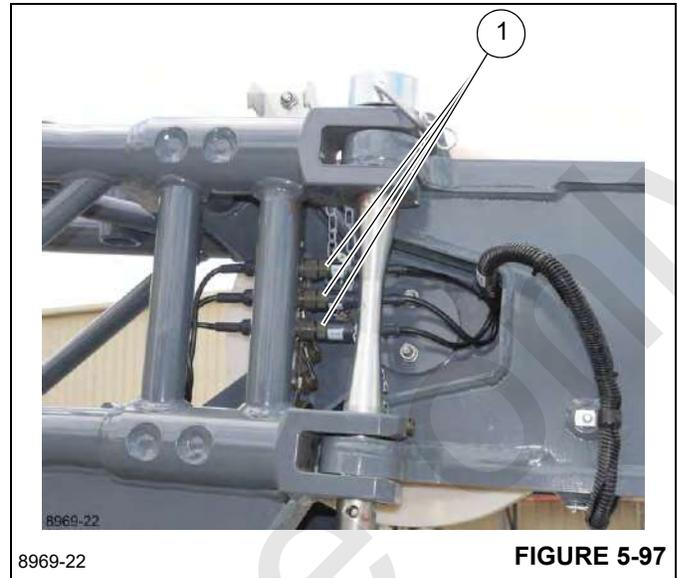

FIGURE 5-97
- b. Connect the plugs (1), (Figure 5-97) to the sockets making sure the plug wire number corresponds to the socket number.